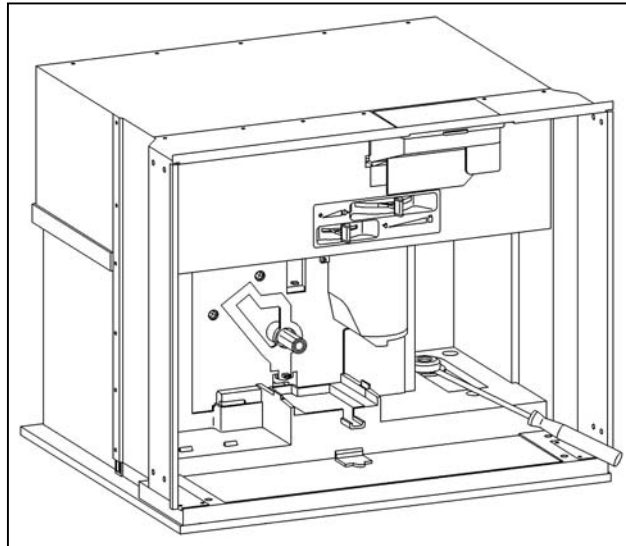

Figure 5-38: Removing the lip seal
3. Lever off the Lip Seal Cap (Figure 5-38).